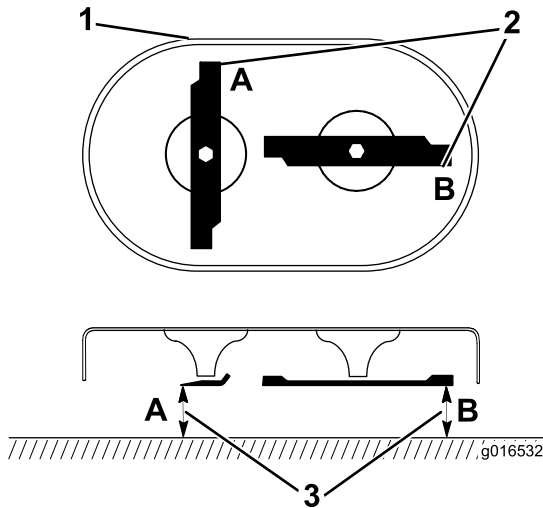

Figure 40
1. Rotate the blades to the position shown in Figure 40.
2. Measure from a level surface to the cutting edges at locations A and B (Figure 40), and record both dimensions.
3. Rotate the blades so that their opposite ends are at locations A and B (Figure 40).